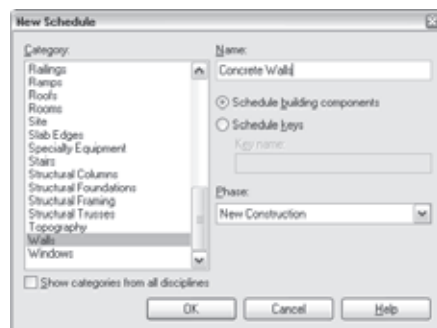

Figure 11.10
3. Choose Walls from the category menu, and name the schedule **Concrete Walls** (see Figure 11.10).